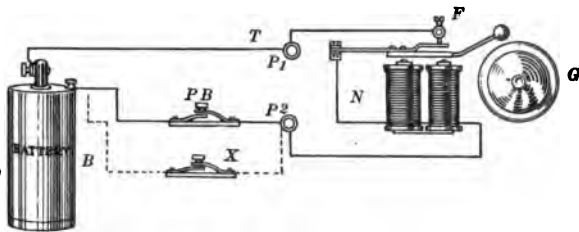

FIG. 37
2. Arrange the apparatus as shown in figure 37 and perform the experiment given in section 234 of the text.